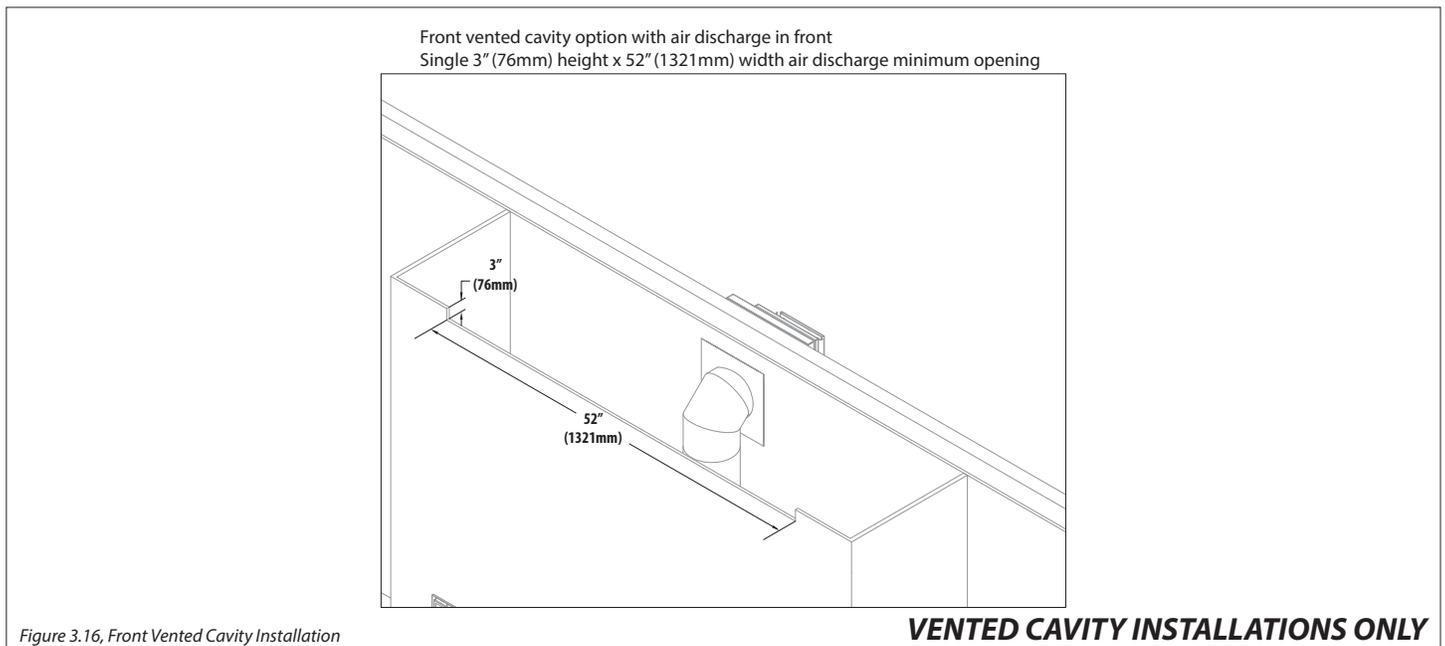
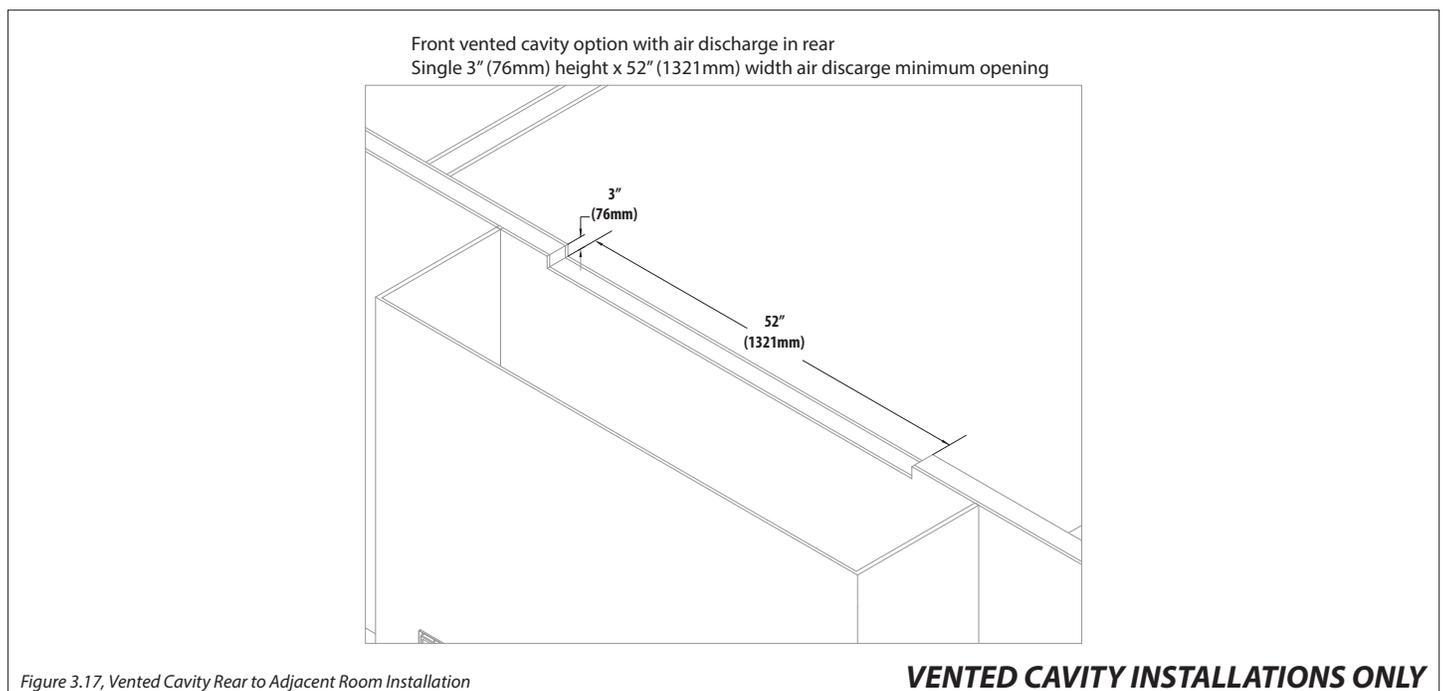

Figure 3.16, Front Vented Cavity Installation
Figure 3.17, Vented Cavity Rear to Adjacent Room Installation
- Figure 3.16 shows the minimum required dimensions for the vent cavity air discharge opening. This single 3" (height) x 52" (width) air discharge opening can be in either the front of the fireplace chamber, so hot air exits into the room the fireplace is installed, or the discharge opening can be in an adjacent room, where the discharge opening would be located on the rear of the fireplace chamber. See Figure 3.17 for rear opening.